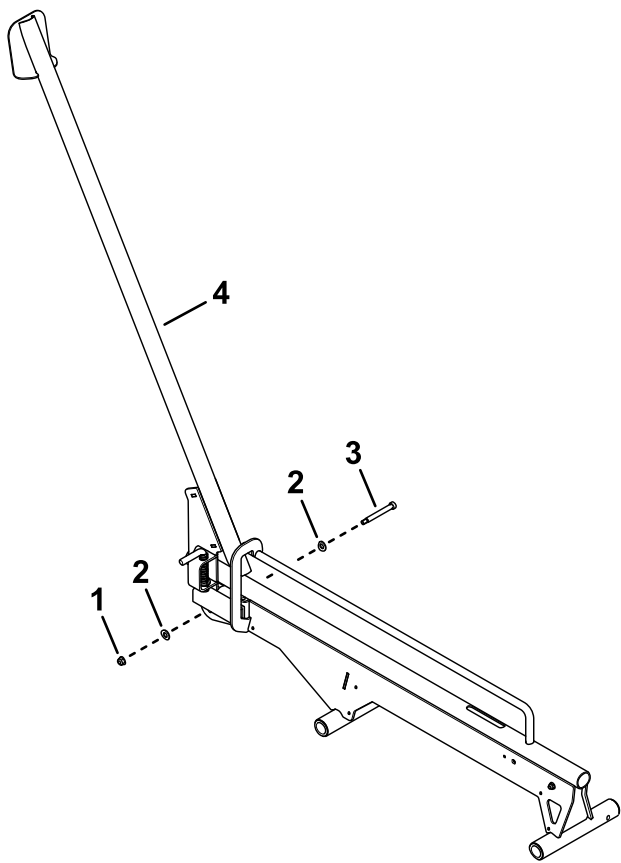

Figure 6
8. Use a flange nut (5/16 inch), 2 washers, and a shoulder bolts to secure the ramp assembly to the rail assembly (Figure 6).